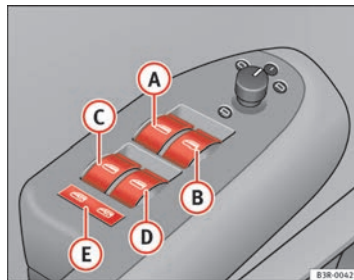

Fig. 80 Detail of the driver door: Control switches
- A** Switch => fig. 80 for the driver door window
The safety switch ⇒ page 109, fig. 80 **ⓔ** can deactivate the rear door switches. The windows can only be operated from the rear when the safety switch is pressed in.